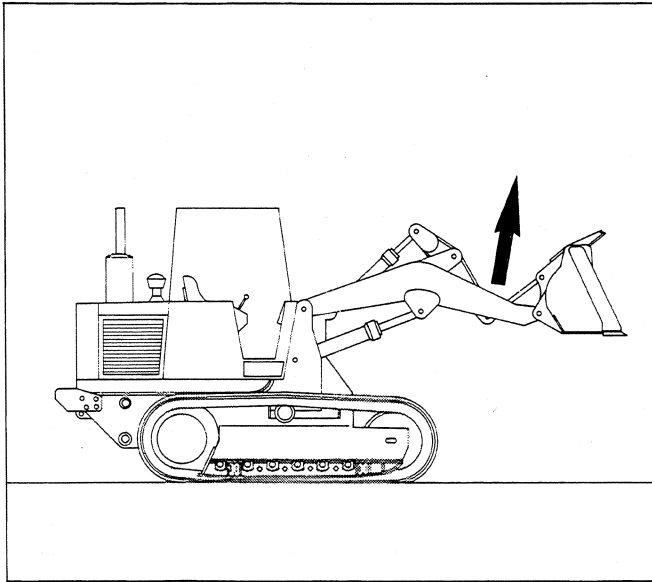

Fig. 7A
Shifting the lever into position (A) will make the boom lift (fig. 7A).